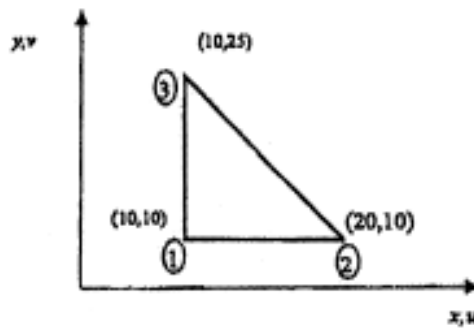

Fig. 1
21. For the plane strain element shown in Figure 1, determine the element stresses σ_x , σ_y and τ_{xy} corresponding to the following nodal displacements :